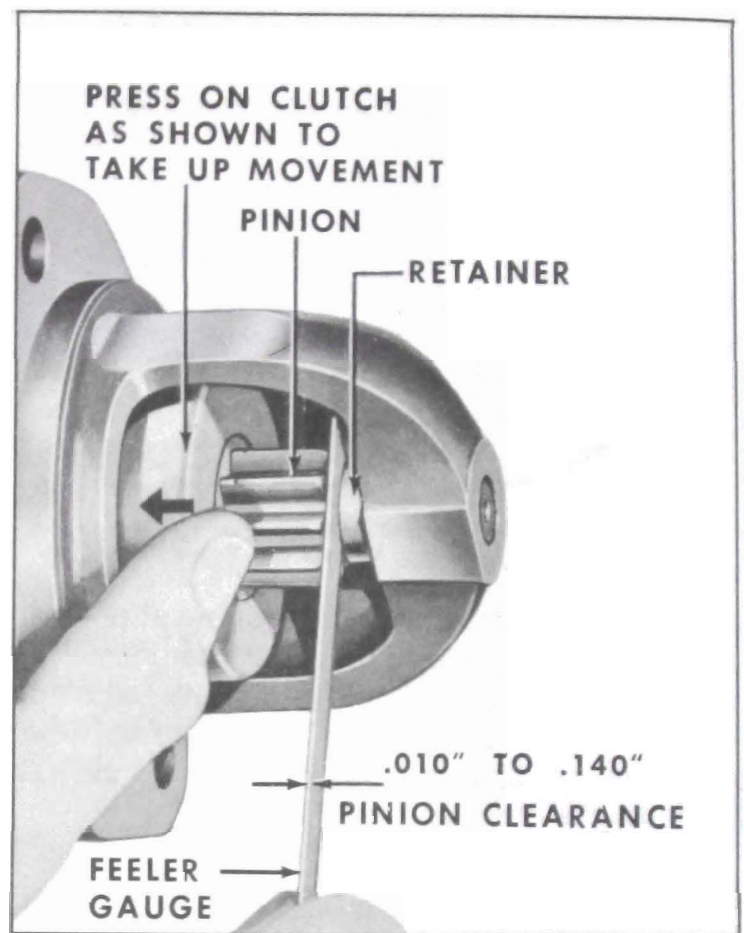

Figure 10-29—Checking Pinion Clearance
2. After energizing the solenoid, push the pinion away from the stop retainer as far as possible and use feeler gauge to check clearance between pinion and retainer. See figure 10-29.